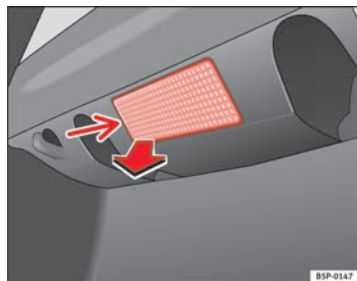

Fig. 151 Luggage compartment light
- Extract the tulip shaped fitting by pressing on the inside edge of this -arrow- using the flat side of a screwdriver ⇒ fig. 151.